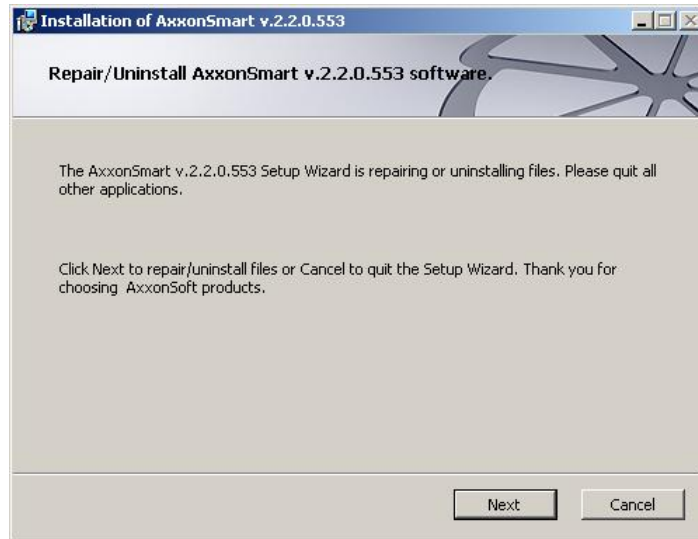

Fig. 3.2—16 Welcome dialog box
1. Click **Next** on the setup wizard's welcome screen (Fig. 3.2—16).
A dialog box will appear allowing you to choose the type of a procedure (Fig. 3.2—17).